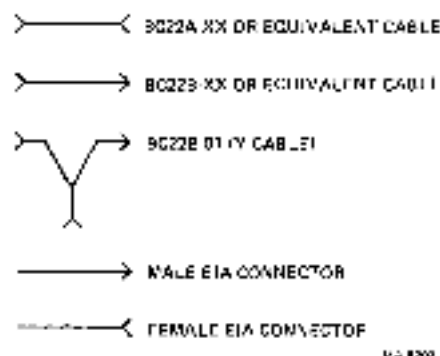

Figure 5-39 Printer Connection to Multiple
2. Line printer connected to multi-terminals (Figure 5-39)